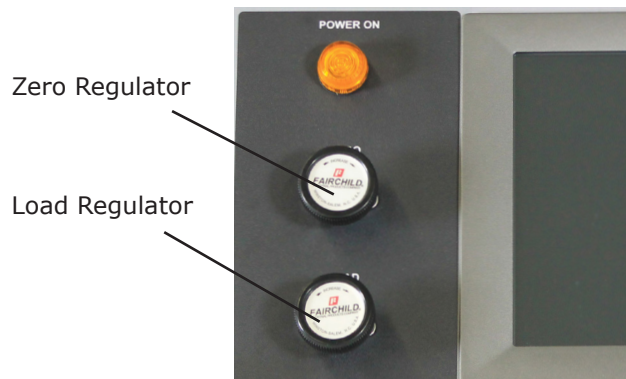

Figure E.16 - Zero Regulator & Load Regulator
3. Adjust the zero regulator (see Figure E.16) until the loading shaft contacts the non-compliant beam with a minimal force of  $35 \pm 10$  mN.